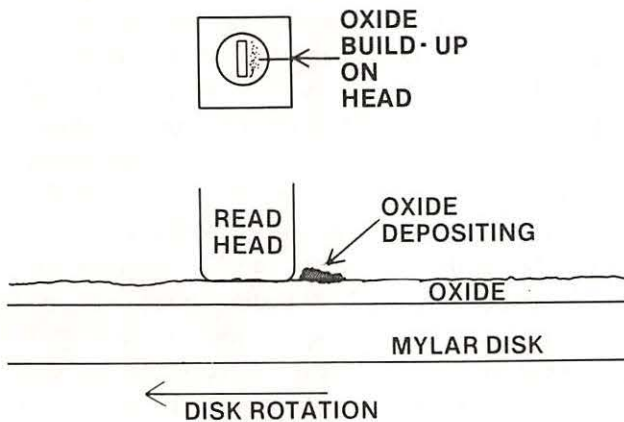

Fig. 8-10. Oxides get wiped off the disk surface and build up on the head surface.
2. Heads need cleaning to remove the oxides from your disks that build up on the leading edge of the head (the side facing the direction of disk rotation), as shown in Fig. 8-10.